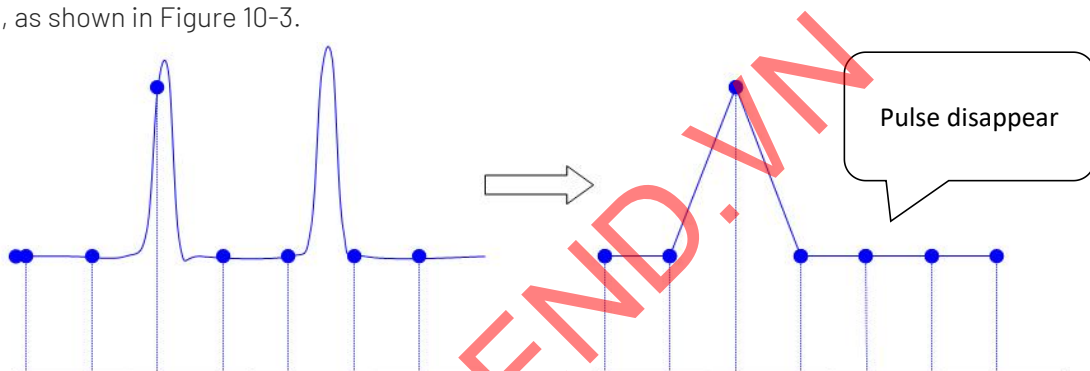

Figure 10-3
■ **Waveform Missing:** Due to the low sampling rate, the waveform does not reflect all the actual signals, as shown in Figure 10-3.